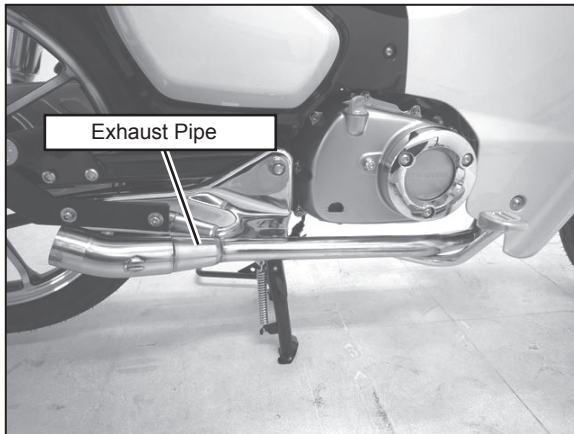

FIG. 6
6) Make sure to insert HONDA genuine exhaust gasket into exhaust port. Then, mount Exhaust Pipe on exhaust port with 2 stock nuts Tighten nuts by hand only at this stage (See Fig. 6 & 7).